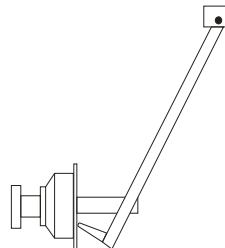

Figure 8-1
8.2.3 Moving the measuring scale, rotating the handle bar and make the ruler head to the endge of the rim inside shown as Figure 8-1, press [ALU] and put back the measuring scale when LCD screen prompt ending calibration.
8.3.3 8.3.3 According to the prompts, swing the width scale, and make the ruler head to the flange of the main shaft shown as Figure 8-1, press [ALU] and put back the measuring scale when LCD screen prompt ending calibration.